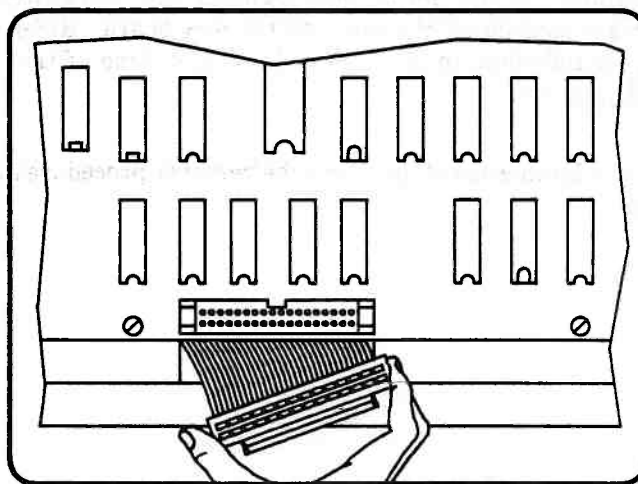

Figure 5-54. Removing MFD Unit Signal Cable From Motherboard
8. Unplug the MFD Unit signal cable connector from the Motherboard (Figure 5-54).